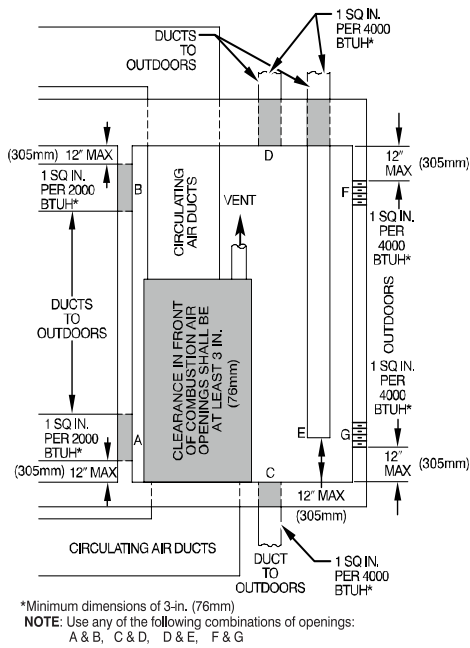

Fig. 6 – Air for Combustion, Ventilation, and Dilution for Outdoors L12F012
2. Fig. 6 illustrates how to provide TWO OUTDOOR OPENINGS, one inlet and one outlet combustion and ventilation air opening, to the outdoors.
- b. Size openings and ducts per Fig. 6 and Table 4.
- c. TWO HORIZONTAL DUCTS require 1 sq. in. (645 sq. mm) of free area per 2,000 BTU_h (1,100 mm²/kW) of combined input for all gas appliances in the space per Fig. 6 and Table 4.
- d. TWO OPENINGS OR VERTICAL DUCTS require 1 sq. in. (645 sq. mm) of free area per 4,000 BTU_h (550 mm²/kW) for combined input of all gas appliances in the space per Fig. 6 and Table 4.
- a. 1 sq. in. (645 sq. mm) of free area per 3,000 BTUh (734 mm²/kW) for combined input of all gas appliances in the space per Fig. 6 and Table 4.